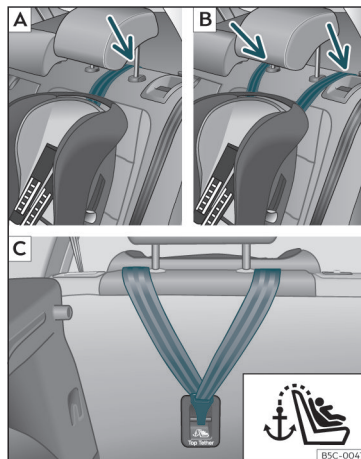
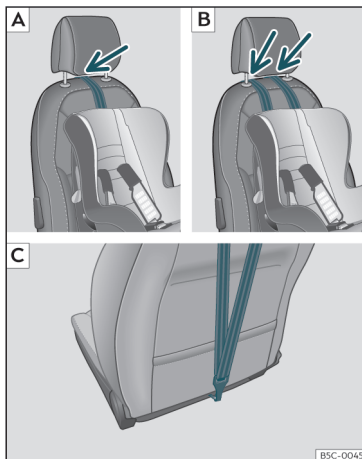

Fig. 29 Rear seats: adjustment and assembly according to the Top Tether belt.
Fig. 30 Front passenger seat: adjustment and assembly according to the Top Tether belt.
>>> **Fig. 29 [A/B]**, >>> **Fig. 30 [A/B]**.
- Slide the strap and secure it properly with the anchorage of the backrest >>> **Fig. 29 [C]**, >>> **Fig. 30 [C]**.